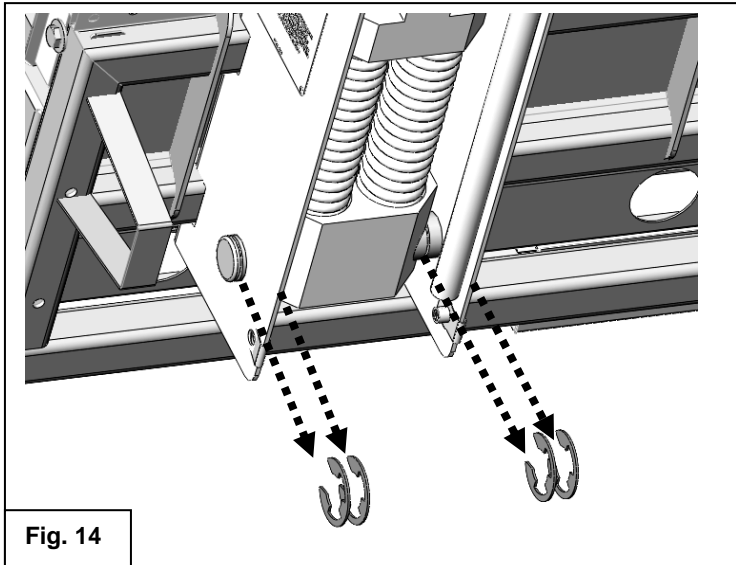

Fig. 14
16. Remove the four retaining clips that secure the lower pivot rod. Fig 14.